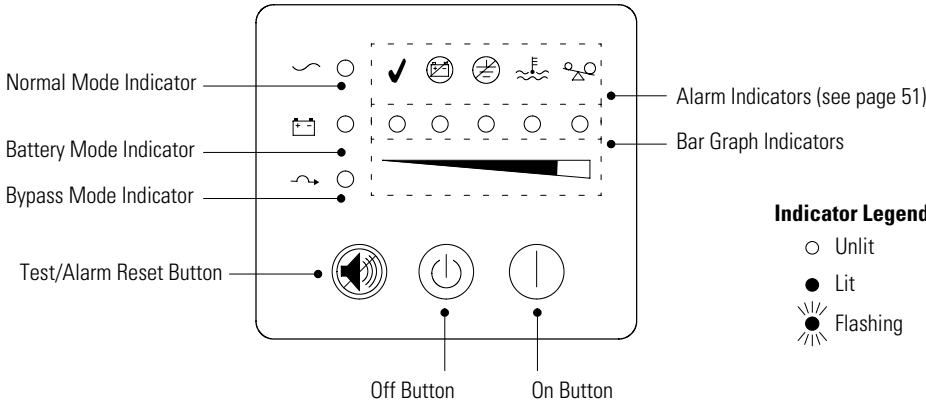

Figure 14. UPS Front Panel
13. Press the On | button (see Figure 14 on page 31).
To turn on the UPS, press the On | button on the front panel (shown in Figure 14 on page 31). The ~ indicator illuminates solid and the bar graph indicators display the percentage of load being applied to the UPS.
Powerware 9125's front panel indicates the UPS status through the UPS indicators. Figure 14 shows the UPS front panel indicators and controls.